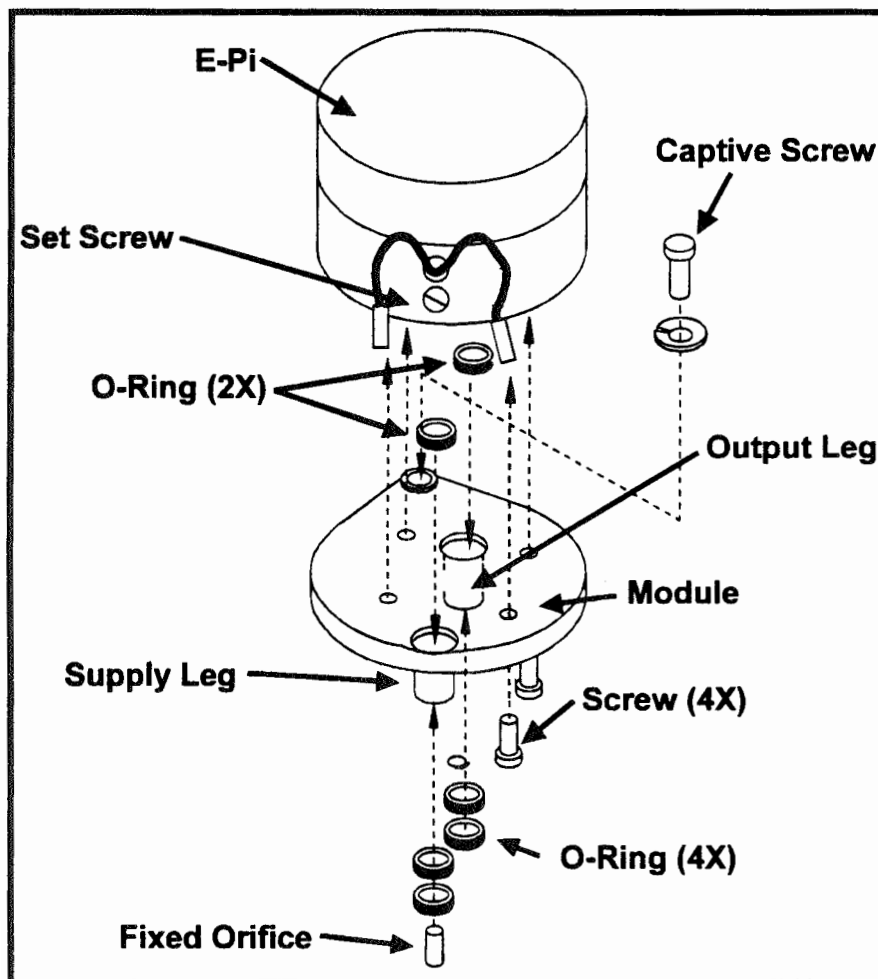

Figure 10 - E-Pi Plug-In-Module Assembly
- 4.2.3 See figure 10. Try pulling the fixed orifice out of the supply leg with needle nose pliers. If this is possible skip step 4.2.4 and go to step 4.2.5